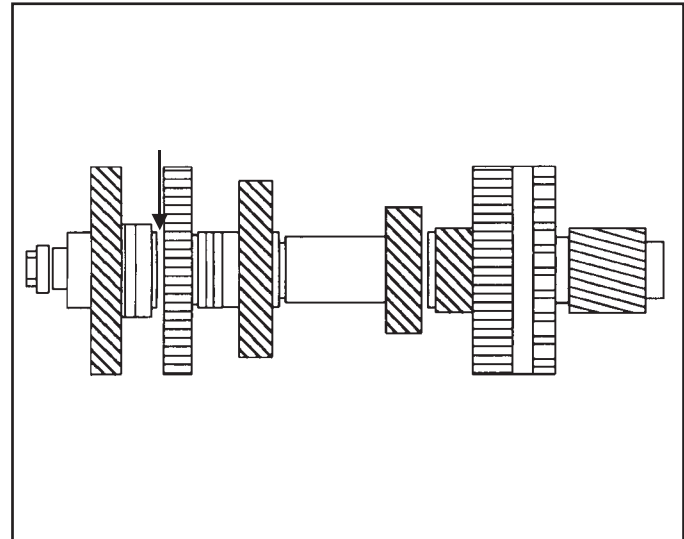

Figure 143
29. Measure clearance between the reverse driven gear and the reverse driven gear thrust washer (See Figure 143).